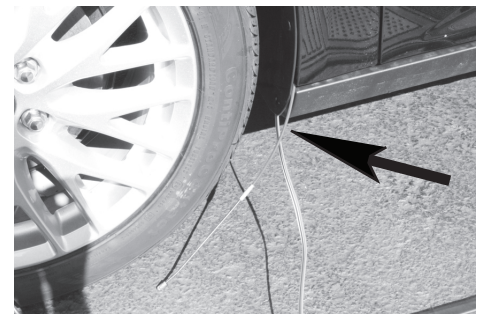

Figure 6
11. Starting in engine compartment route a fish tape down through front wheel well down to opening shown in **Figure 6**. Secure 4-Flat to fish tape and pull up through wheel well and into engine compartment.